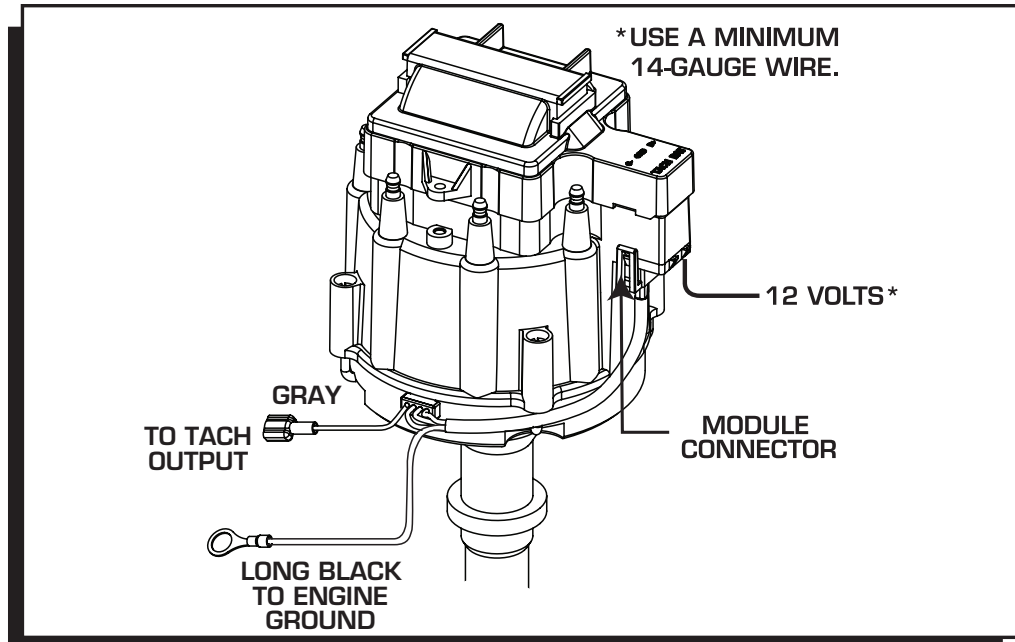

Figure 2 Connecting the Module and Tach Lead.
7. Connect the HEI Module harness to the Distributor Cap followed by the 12 volt (BAT) wire. This wire should be at least 14-gauge (Figure 2).